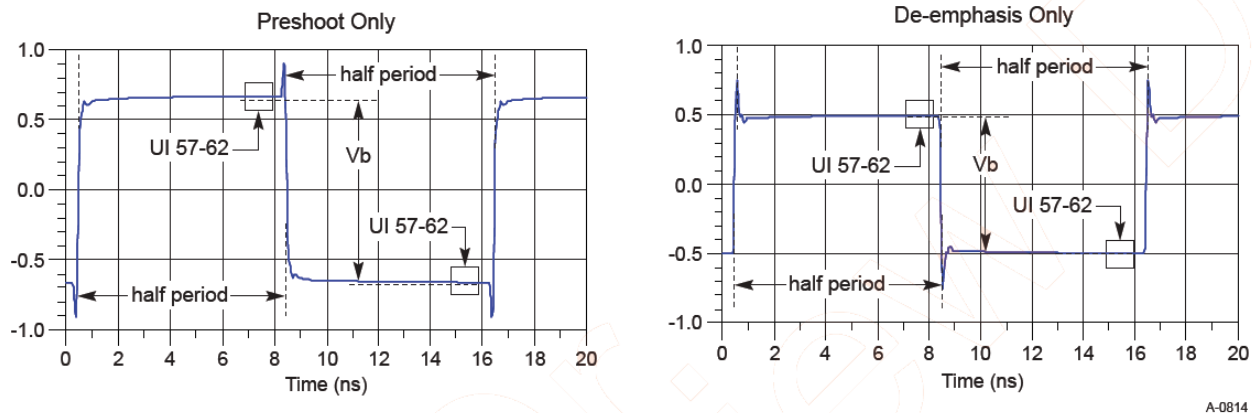

Figure 105 Waveform measurement points for preshoot and de-emphasis
8.0 GT/s, 16.0 GT/s and 32.0 GT/s PCIe signaling must support the full range of presets given in Table 8-1 (PCIe Base Specification Revision 5.0). Presets are defined in terms of ratios, relating the pre-cursor (Vc) is referred to as pre-shoot, while the post-cursor (Vb) is referred to as de-emphasis. This convention permits the specification to retain the existing 2.5 GT/s and 5.0 GT/s definitions for Tx equalization, where only de-emphasis is defined, and it allows preshoot and de-emphasis to be defined such that each is independent of the other. The tolerances in Table 8-1 (PCIe Base Specification Revision 5) also apply to 2.5 and 5.0 GT/s de-emphasis. The maximum swing, Vd, is also shown to illustrate that, when both c_{+1} and c_{-1} are nonzero, the swing of Va does not reach the maximum as defined by Vd. The high frequency nature of PCIe signaling makes measurement of single UI pulse heights impractical. Consequently all amplitude measurements are made with low frequency waveforms as shown in Figure 105.